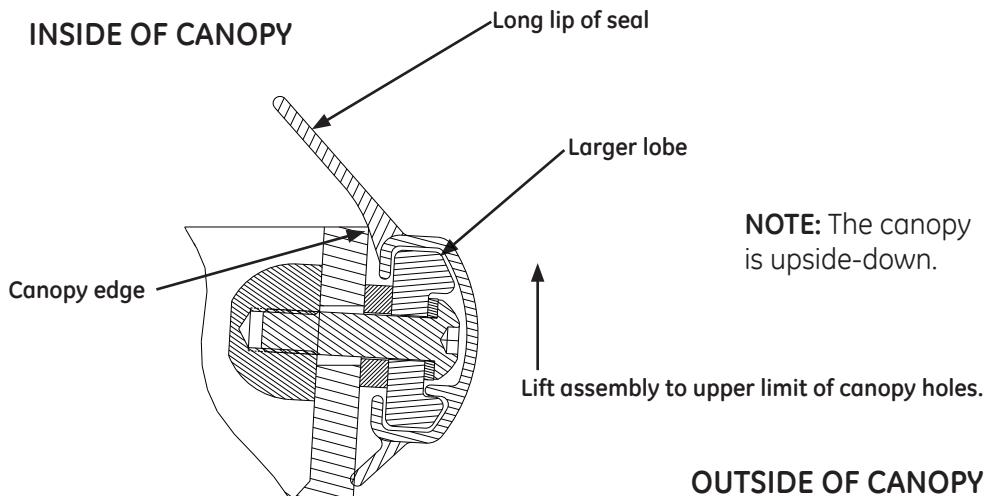

Figure 5-12 Seal Cross-section
- Install the east and west seal guide rails with smooth nuts, spacer washers, lock washers, and screws from kit, as shown in Figure 5-10. The larger lobe of each rail should be closest to the edge of the canopy, as shown in Figure 5-12. (This indicates which way is up on each seal.) The rails have "E" and "W" inscribed for east and west. These letters go toward the heater door cutout end of the canopy.
- e. Slide the seals on both sides, for alignment purposes. Lift the seal assembly to the upper limit of the canopy holes. Refer to Figure 5-12.